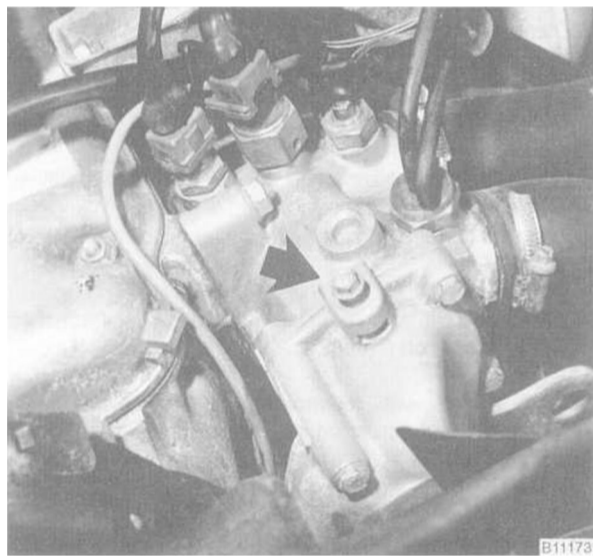

Fig. 7. Cooling system bleed screw (arrow) on 535i model.
3. On models with separate expansion tank, loosen bleed screw on thermostat housing. Add coolant to expansion tank until it spills from screw. Tighten screw. See Fig. 7.